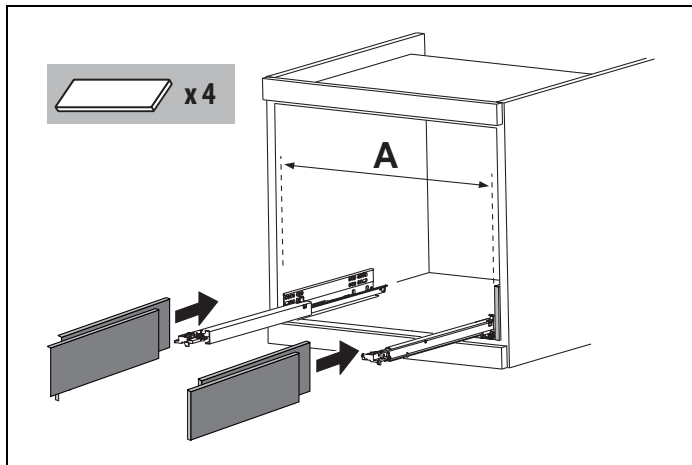
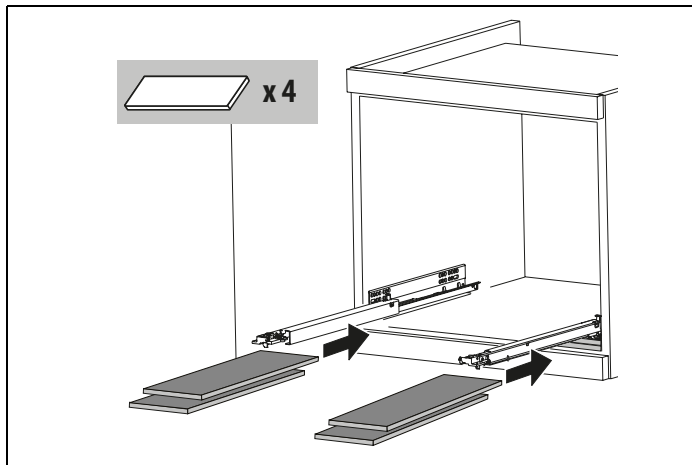

Fig. 8
Fig. 9
- If necessary, correct alignment of the appliance by positioning the spacers supplied under or at the sides of the support (Fig. 8 , Fig. 9).